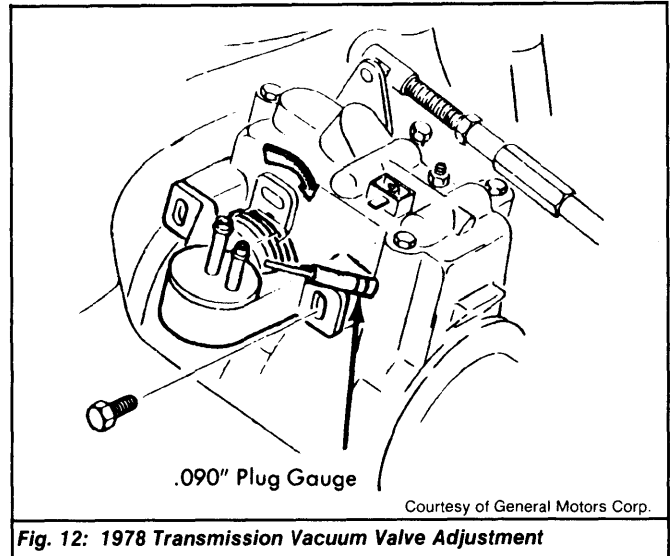

Fig. 12: 1978 Transmission Vacuum Valve Adjustment
2) Rotate transmission vacuum valve to full throttle stop position. Insert a .090" plug gauge to hold throttle valve in full throttle stop position. See Fig. 12.